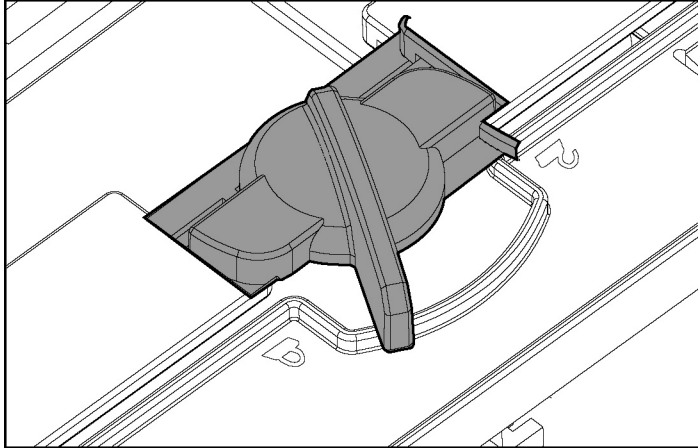

Figure 6: Locking and unlocking the memory board (locked position shown)
2. Unlock memory board 2 (refer to Figure 6) and wait for the board to power down. This usually takes no more than a second to complete. The Memory Status LED will blink green until the board is without power. Once complete, the Memory Status LED will be off.